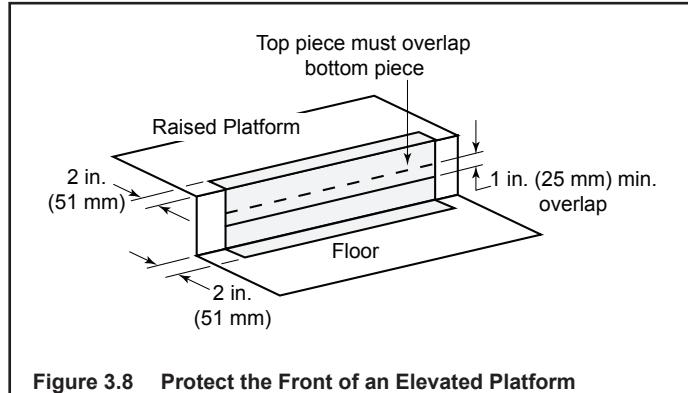

Figure 3.8 Protect the Front of an Elevated Platform
- Protect the front of a platform elevated above the hearth extension with metal strips (not included with fireplace) per Figure 3.8. See Section 6 for hearth extension instructions.